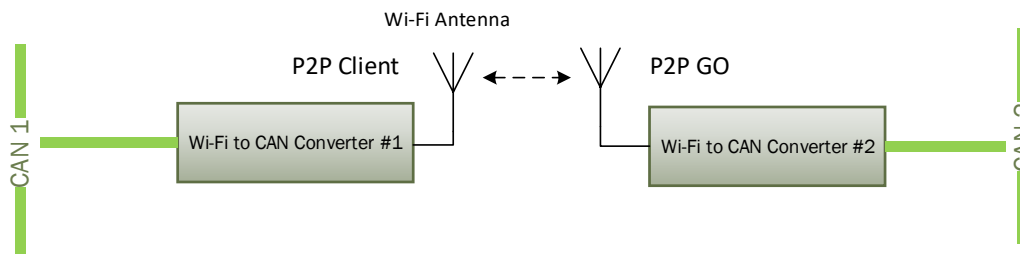

Figure 29. Wireless CAN Bridge with P2P Configuration.
Two Wi-Fi to CAN converters can be connected together using Wi-Fi Direct (P2P) connection without creating an Access Point (AP), see Figure 29.